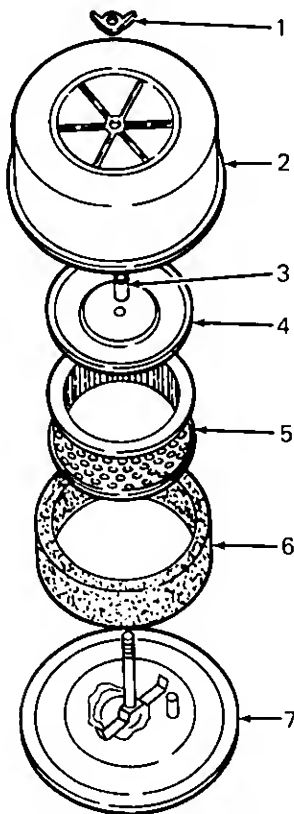

Figure 26. Air Cleaner Assembly
1. Remove wing nut and cover. (See Figure 26.)
This engine is equipped with a dry type air cleaner element, which should be checked every 100 operating hours and replaced if dirty. It should be checked and if necessary replaced more often under extremely dirty, dusty conditions. Do not wash element in any liquid or attempt to blow dirt off with air hose as this will puncture filter element. Carefully handle new element — do not use if gasket surfaces are bent or twisted. Check the following when installing a new element: (See Figure 26.)